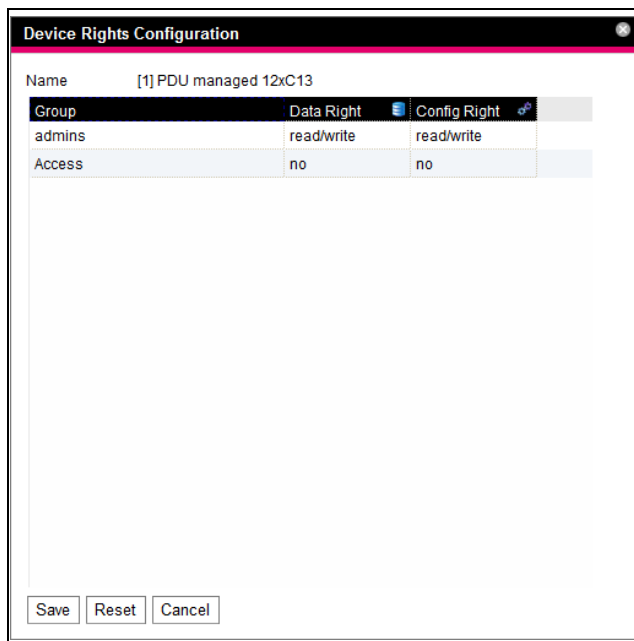

Fig. 38: "Device Rights Configuration" dialog
The "Device Rights Configuration" dialog will appear (fig. 38).
The respective symbols are displayed both when selecting a sensor in the navigation area on the **Configuration** tab and opening it down to the lowest level, as well as in the "Device Rights Configuration" dialog (fig. 38, item 1). The symbols illustrate allocation to the two data types "Data" and "Config".